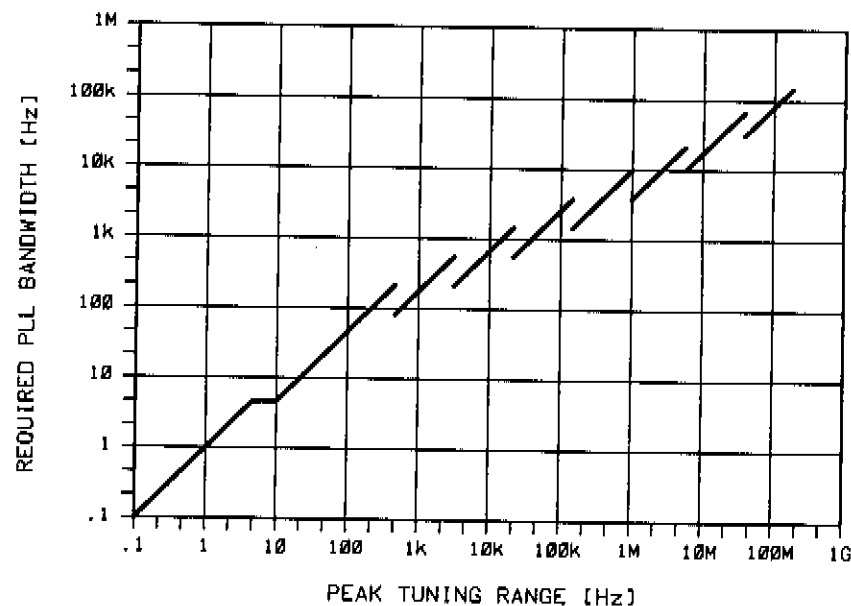

Figure 3-42. Peak Tuning Range (PTR) Required by Injection Locking.
The PTR for the measurement is set by the tuning characteristics of the VCO source you are using. Notice in Figure 3-42 that increasing the PLL bandwidth can require a substantially larger increase in the PTR. For information on the limitations of increasing the PTR, refer to *Changing the PTR* in this section.
3. Locate the required PLL bandwidth in Figure 3-42 to determine the PTR required for the measurement. (For details on increasing the PTR, refer to *Changing the PTR* in this section.